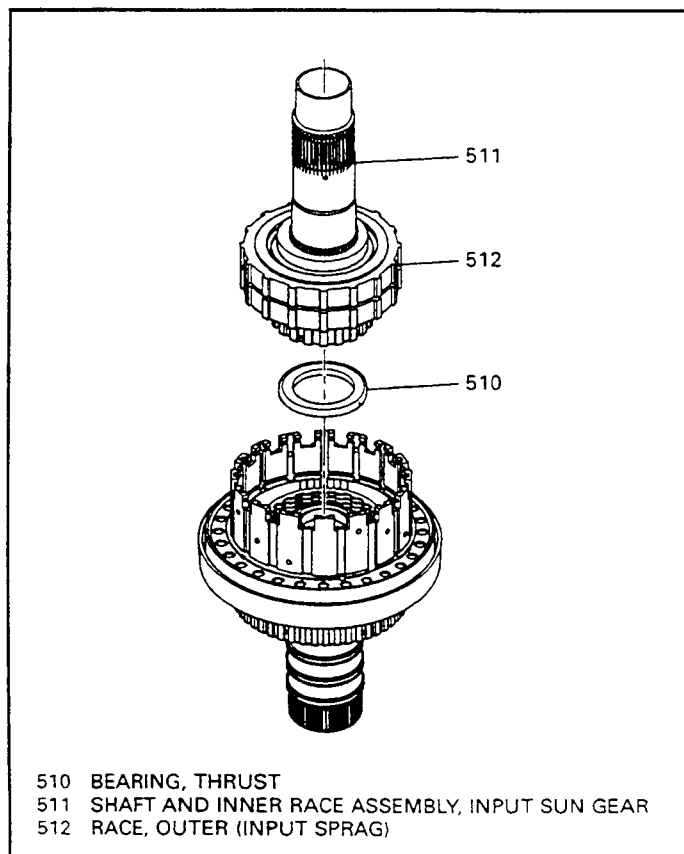

Figure 134
25. Install the thrust bearing (510) on the underside of the input shaft, as shown in Figure 134, and retain with generous amount "Trans-Jel".
26. Install the input shaft and input sprag assembly into the input as shown in Figure 134.
27. The splines on the input sun shaft must engage into the coast clutch lined plates, as shown in Figure 134.